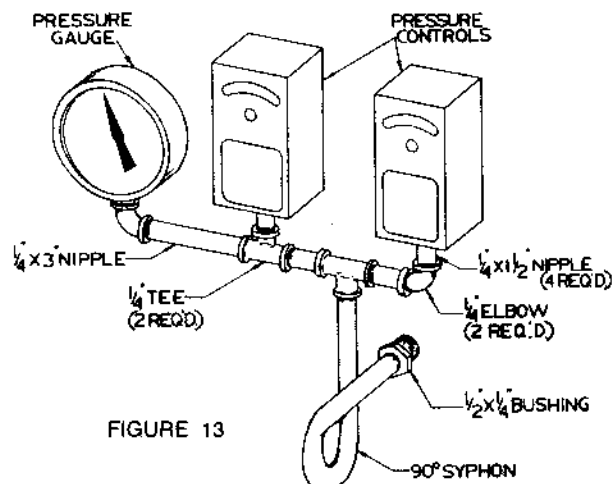

FIGURE 13
4. Install the steam pressure operating and high limit controls and the pressure gauge in the proper tapping as indicated in the CONTROL TAPPING TABLE and FIGURE 6. Use the pigtail syphon and fittings furnished (see FIGURE 13).